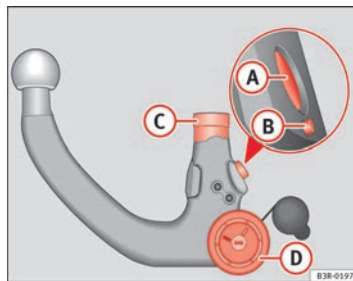

Fig. 155 Removable
- Check the locking pin **A**, release pin **B**, shaft section **C** and knob **D** ⇒ **page 198, fig. 155** on the ball joint to make sure they are clean and undamaged.